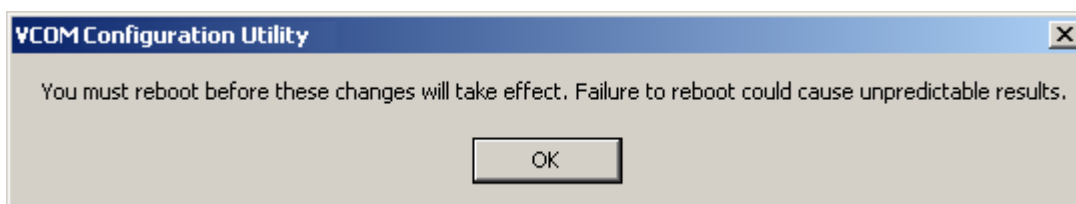

Figure 41. Reboot Message
- Click the **Save** button. If you changed the VCOM Settings, the message in Figure 41 appears.